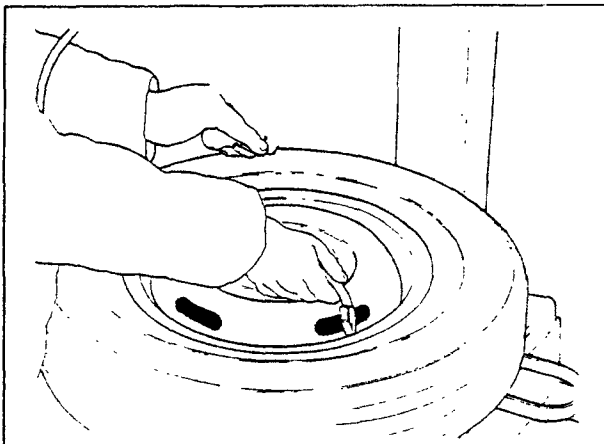

Fig.23
A. To inflate the tire unlock the rim and start inflating while pressing the valve towards the inside (this is necessary to avoid air pockets forming between the tube and the tire) (fig.23).